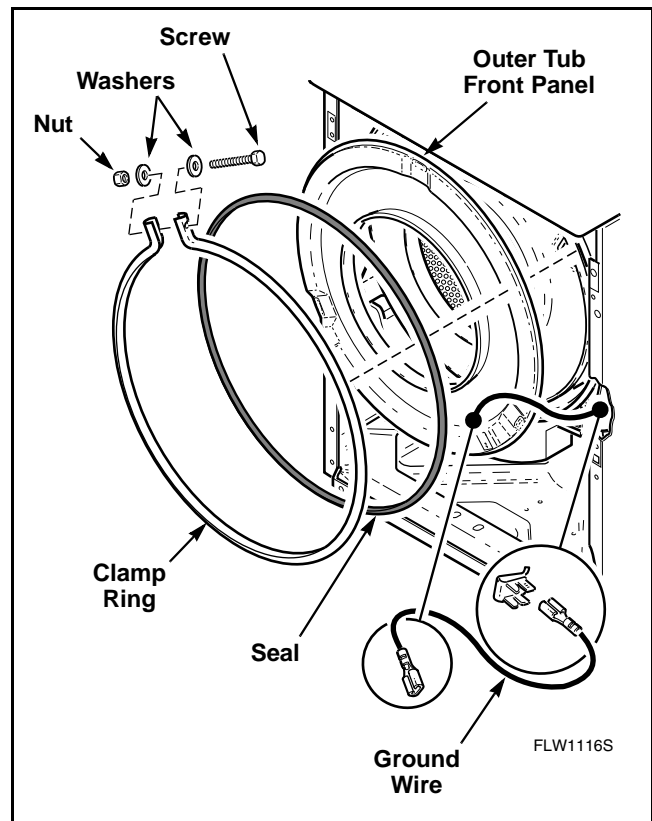

Figure 45
- n. Disconnect ground wire from outer tub front panel. Refer to *Figure 45*.
- o. Remove nut, washers and screw holding clamp ring to outer tub front panel. Refer to *Figure 45*.